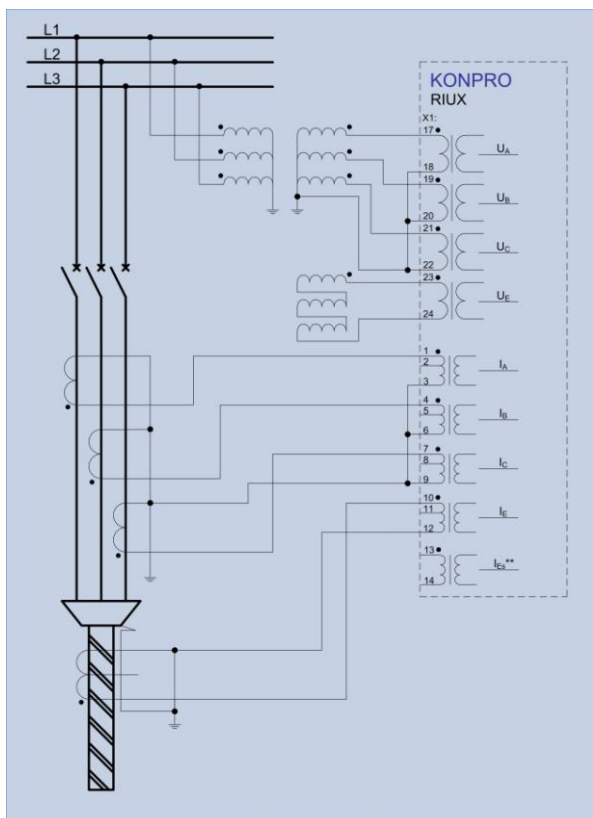

Fig. 4: Relay connection schematic RIUX with ground voltage transformer
- While setting voltage protection for pickup value it is possible to choose the effect on size of linear voltage, and direct or inverse voltage component. Common relay connection options are shown on fig. 4 and 5.